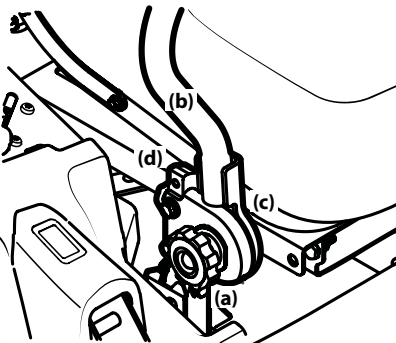

Figure 4-9
1. Loosen the control lever knob (a) on the side of the drive control lever (b). See Figure 4-9.
3. Secure in place by tightening the control lever knob (a). See Figure 4-9.